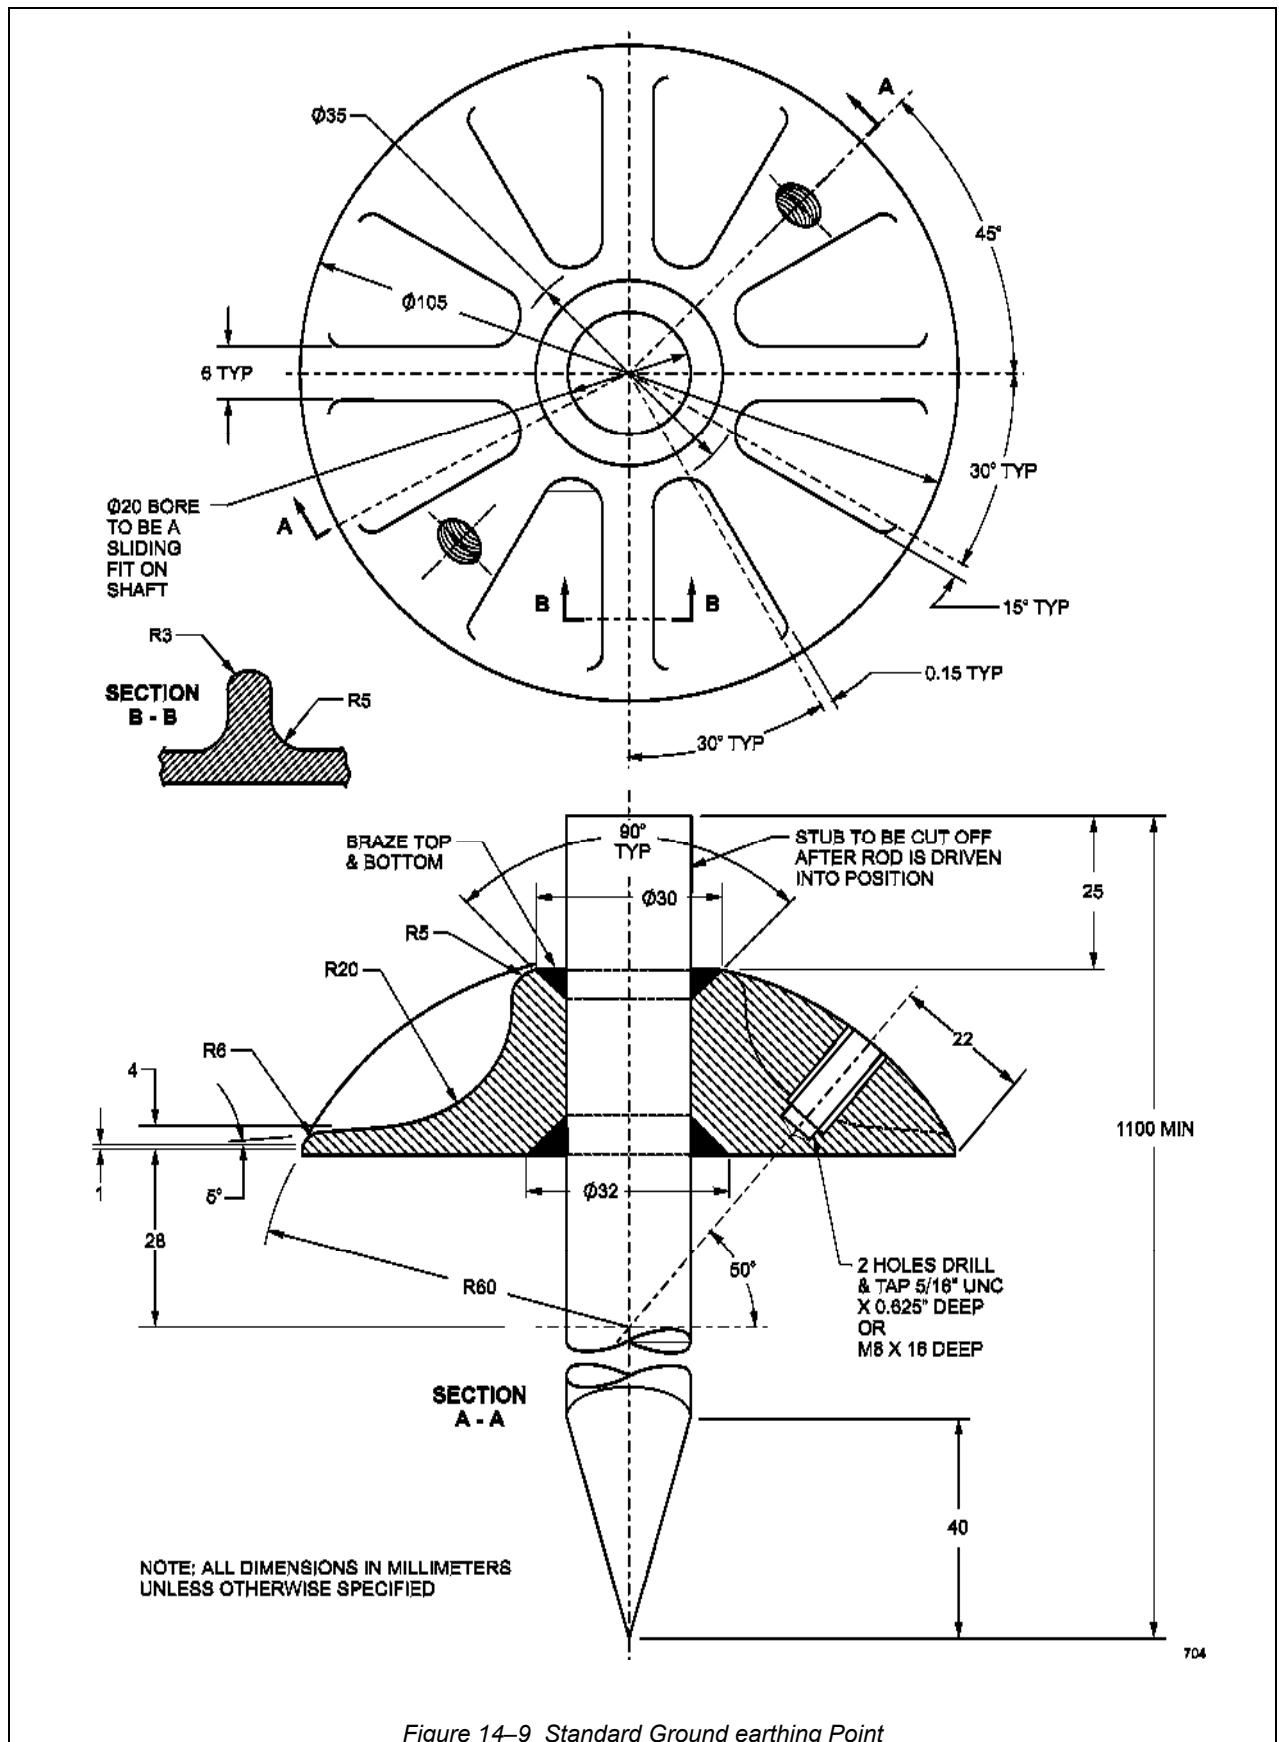
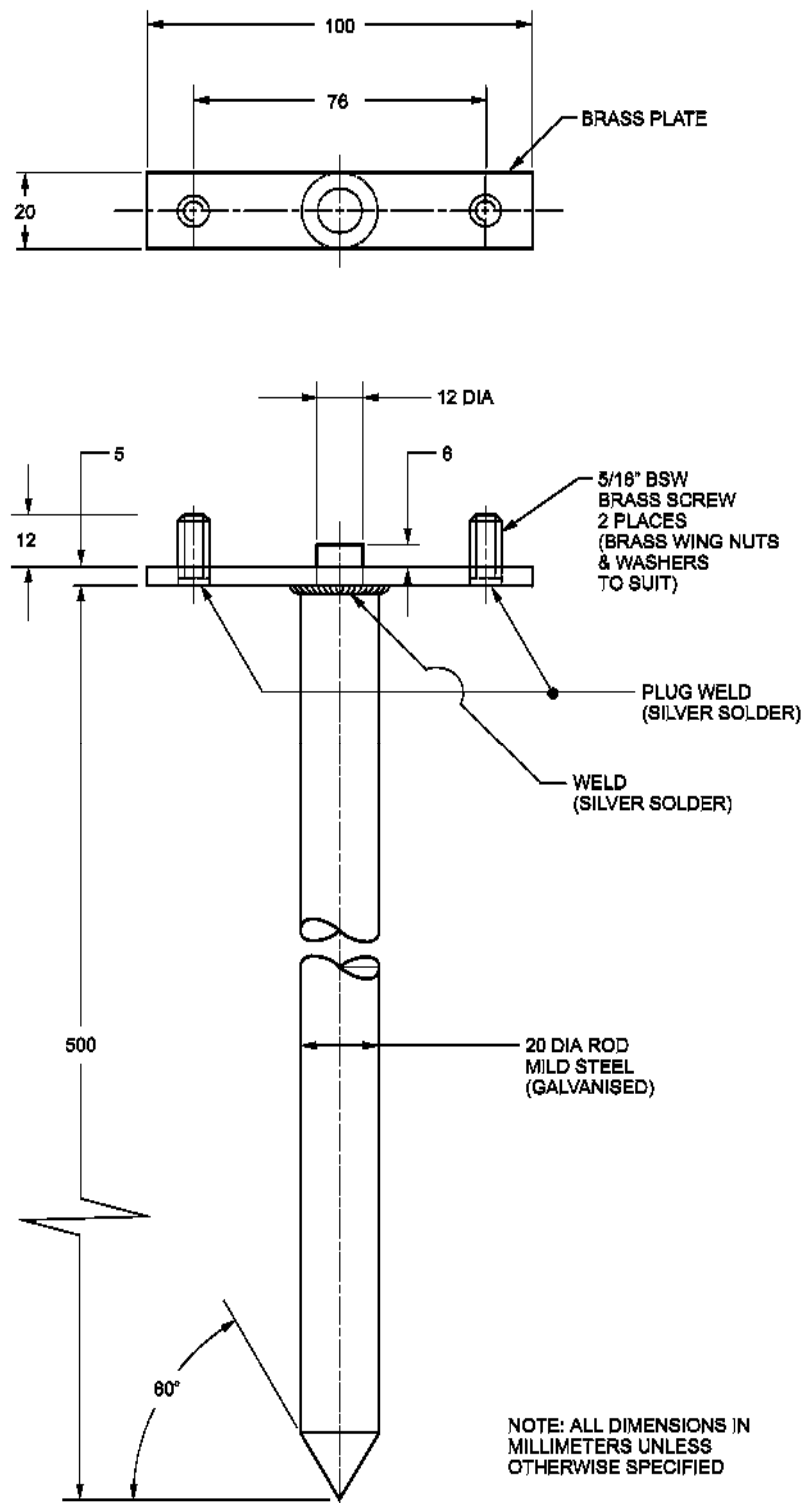

Figure 14-9 Standard Ground earthing Point
Figure 14-10 Temporary Ground earthing Point
69. Standard ground earthing points, similar to the detailed drawing at Figure 14-9, should be located adjacent to aircraft parking positions. Ideally, sufficient points are to be available so that no more than one aircraft is connected to any one point; however, this requirement is not mandatory.
73. A sample ground earthing point specifications are detailed in Figure 14-9 and Figure 14-10.
- a. **Preferred Method.** Made in the same form as a standard ground earthing point, (see Figure 14-9), except the minimum length is 50 cm.
- b. **Alternate Method.** When the standard earth point shown in Figure 14-9 is not available, temporary earth points may be manufactured using a galvanised mild steel rod with a brass top plate as shown in Figure 14-10.